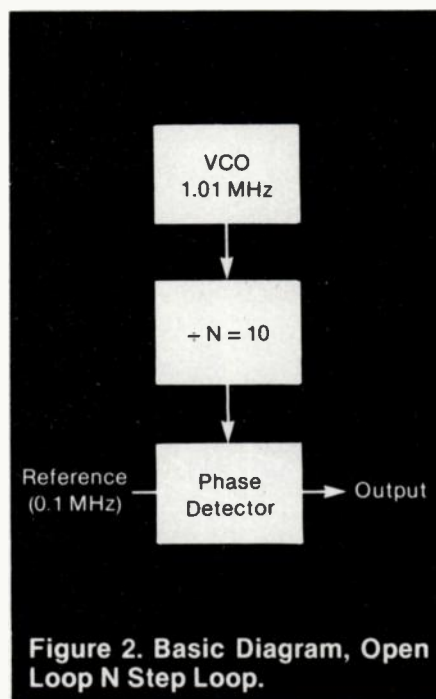

Figure 2. Basic Diagram, Open Loop N Step Loop.
erates at a fractional multiple (404.55) of the reference signal ($404.55 \times 0.1 \text{ MHz} = 40.455 \text{ MHz}$). This case is shown in Figure 2.
When the VCO operates with a fractional offset (F), it continually advances in phase of $N \times f_{\text{ref}}$ each reference period. From the example of Figure 2 in 55 reference periods, the VCO will have gone through 40455 cycles or advanced one cycle of phase ($2\pi = 360^\circ$) with respect to N times f_{ref} .
As previously illustrated in Figure 2, assume, the VCO operates at 40.455 MHz, a reference of 0.1 MHz, and N equals 404. Each time the reference signal goes through one cycle, the VCO goes through 404.55 cycles. After 55 reference cycles, the VCO has gone through 40455 cycles and the VCO has advanced one full cycle of phase. If 55 VCO cycles are removed from the VCO pulse train applied to the divide-by-N block at the time a full VCO cycle has advanced, the phase advancement on the average is cancelled and the average frequency applied to the divide-by-N block is $N \times f_{ref}$ or in this example: 40.4 MHz.